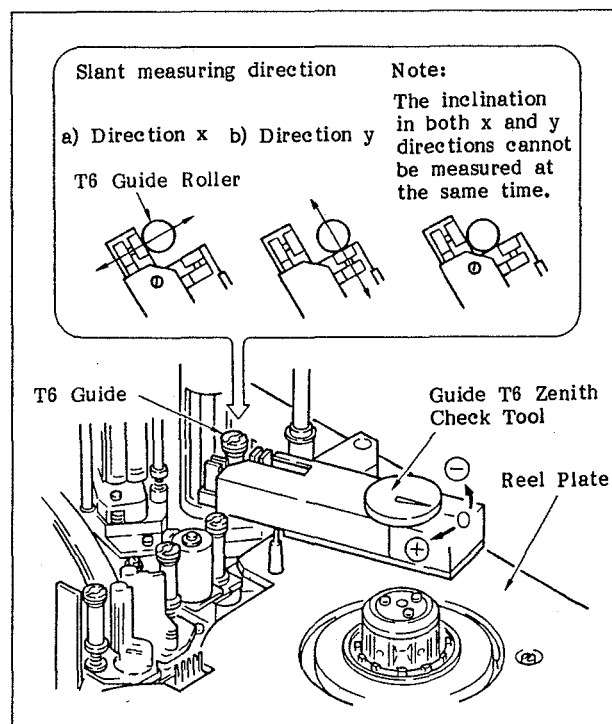

Fig. 6-79 Check the Inclination of the T6 Guide
15. Measure the inclinations of the T6 guide in the x and y directions by referring to Figure 6-79. Check that the differences between the values measured here and the values measured in step 9 are within  $\pm 5 \mu\text{m}$ .